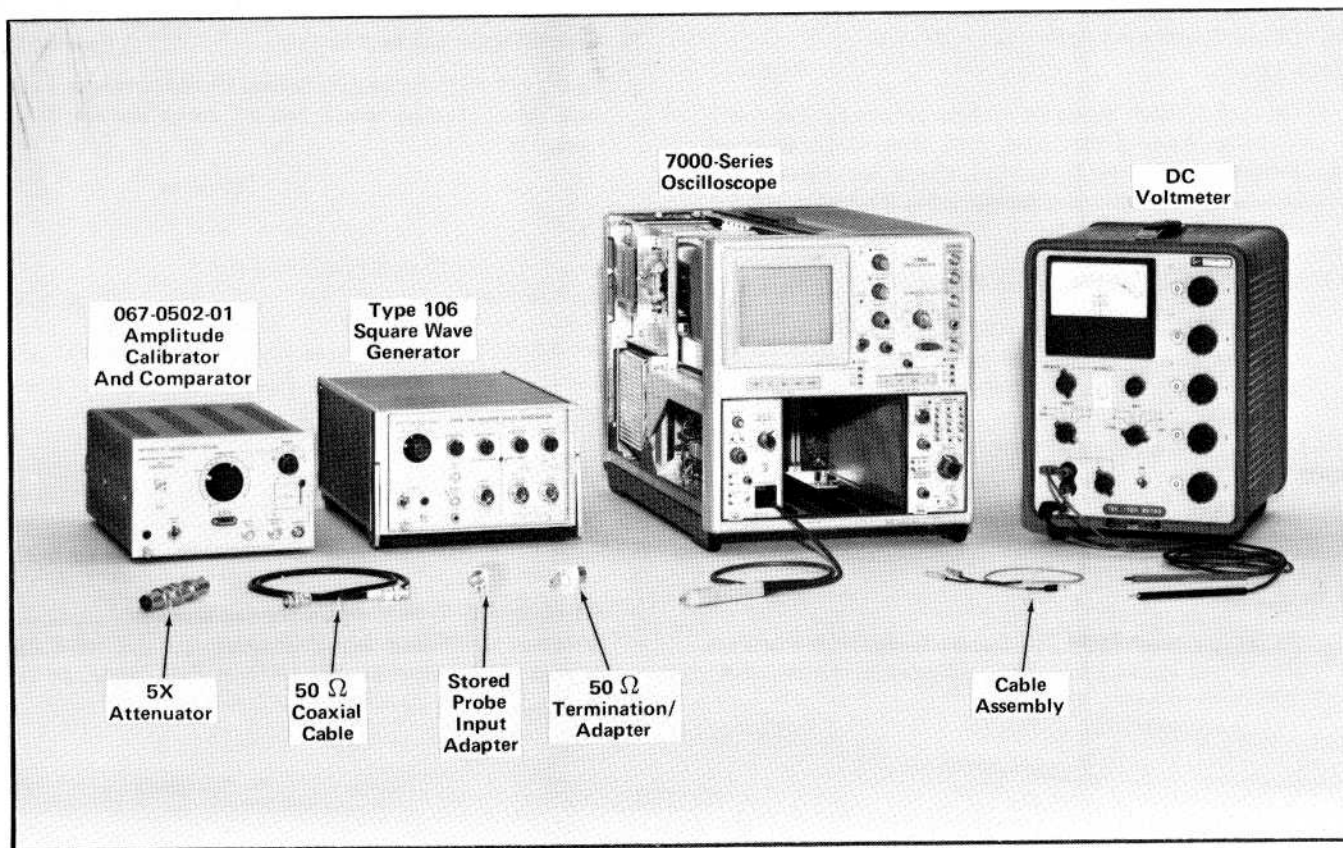

Fig. 5-3. Equipment for steps 1 through 8.
a. Equipment arrangement appears in Fig. 5-3; control settings are given in Table 5-2.